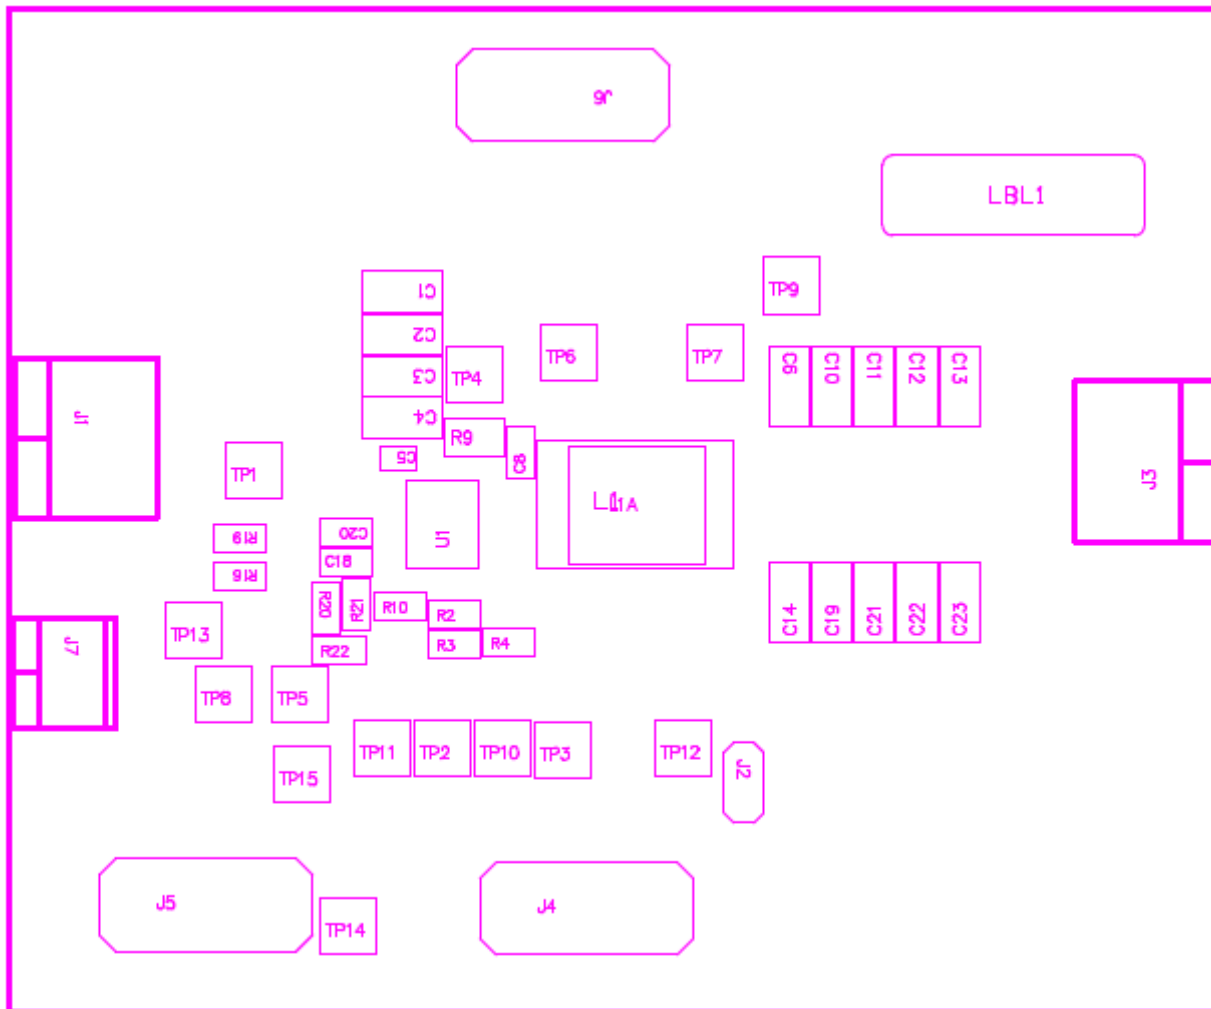

Figure 3. TPS53915EVM-587 Top Layer for Test Setup
Voltage Source—The input voltage source V_{IN} must be a 0 to 14-V variable-DC source capable of supplying 10 ADC. Connect V_{IN} to J1 as shown in Figure 3.
1. Prior to connecting the DC input-source, VIN, TI recommends to limit the source current from VIN to 10 A maximum. Ensure that VIN is initially set to 0 V and connected as shown in Figure 3.
1. Set up the EVM as described in Section 5 and Figure 3.